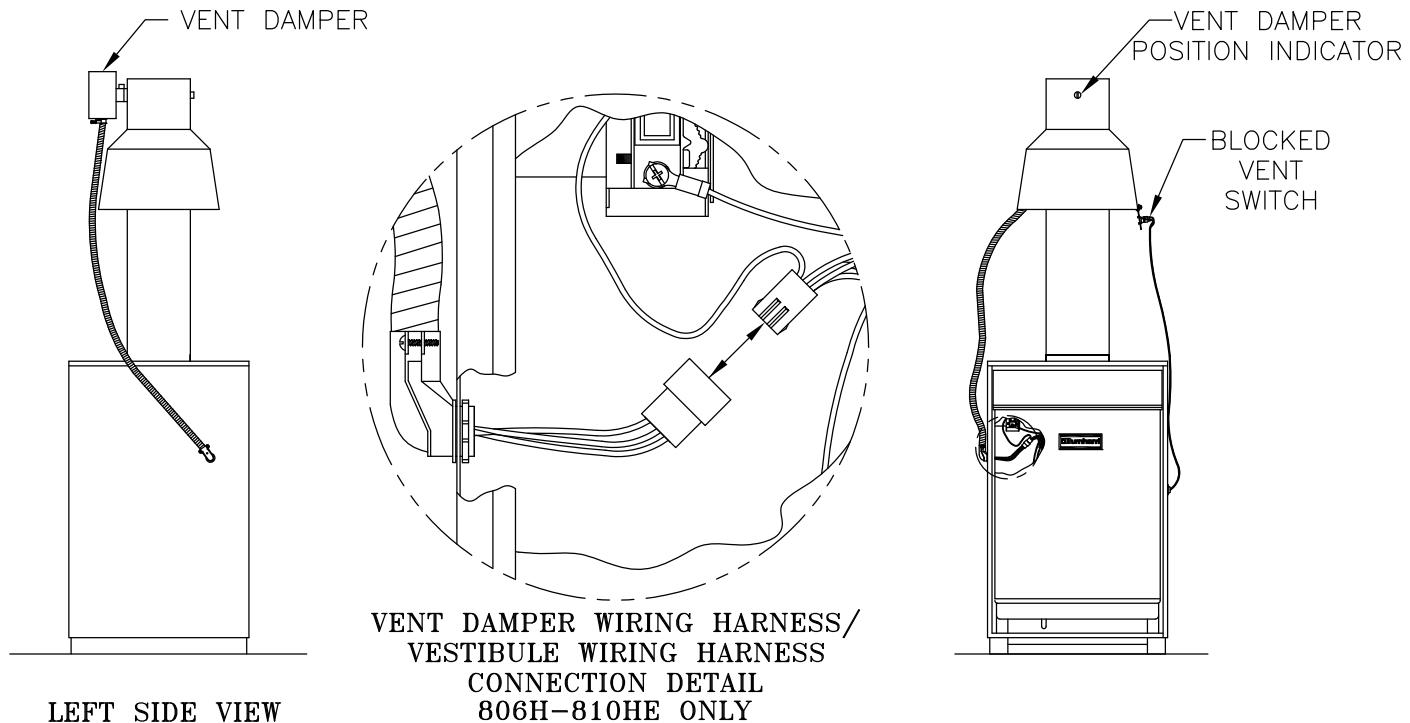

Figure 24: Vent Damper Installation
E. Boiler Equipped With Vent Damper. See Figure 24.
B. Wire Vent Damper (if used; optional on 806H - 810HE). See Figure 24. Vent damper harness for 805 plugs directly into Hydrostat 3200.
- Plug Vent Damper Harness Plug into Vent Damper Receptacle. See Figure 24.